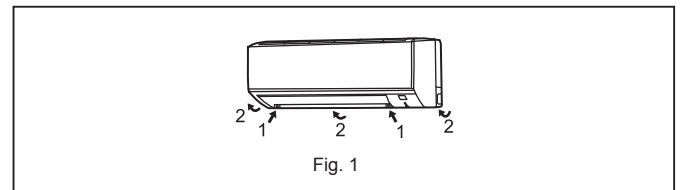

Fig. 1
- The drain hose should point downward for easy drain. (Fig. 1)
- 1) Cut the copper pipe as straight as possible with a pipe cutter. (Fig. 1, 2)
Removal procedure (Fig. 1)